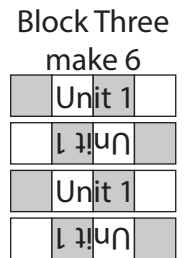

Fig. 9
11. Sew together (4) Unit 1 strips lengthwise to make (1) 8 1/2" Block Three square (Fig. 9). Repeat to make (6) Block Three squares total.